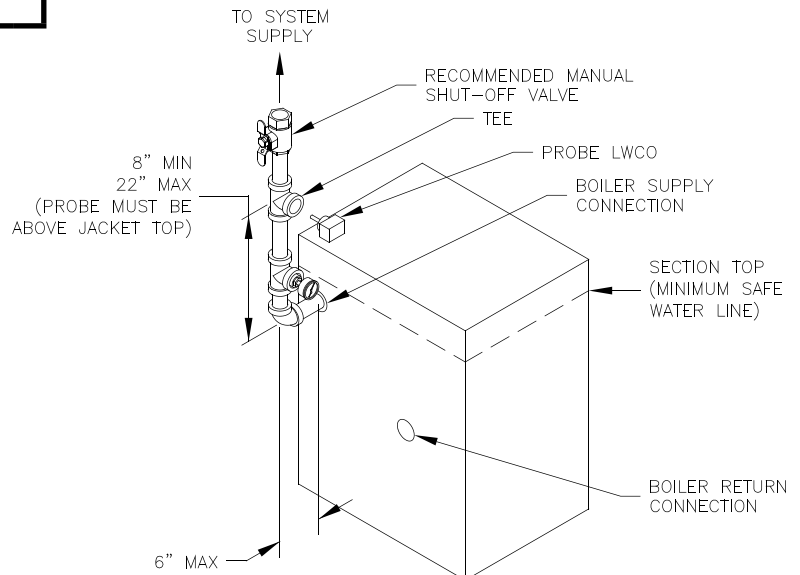

Figure 6: Recommended Probe LWCO Location
5. When constructing a piping tree to install LWCO select fittings (tees, elbows etc) and nipples to have the same size (NPT) as boiler supply connection. At minimum, 1-1/4" tee with 3/4" branch outlet is required to connect the probe LWCO to the supply piping. See Figure 6. **DO NOT REDUCE THE SIZE OF NEAR BOILER SUPPLY FITTINGS AND NIPPLES.**